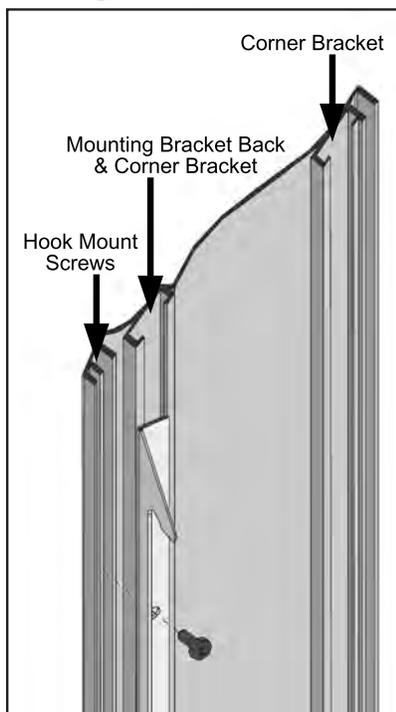
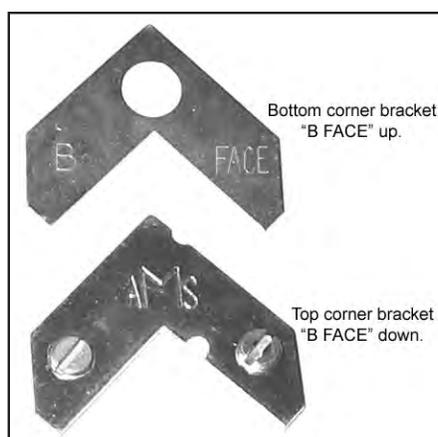

Figure 58: Screw Hook Bracket to the Trim.
Figure 60: Two pieces of corner bracket.
1. Line up the two (2) screw holes in the left hook bracket with the second slot in on the back of the left trim side (refer to Figure 58). Center the bracket between the top and bottom of the trim (approximately $\frac{1}{8}$ " (2.5mm) from either end) and fasten the bracket in place using two (2) #8 screws.
4. Attach the left side trim to the top trim using two (2) corner brackets (see Figure 58 & 59) to secure pieces together. There are two (2) main pieces to each corner bracket (see Figure 60). When installing the corner pieces into the trim the "B FACE" sides must face each other and the screw heads are to face out. With the bracket in place and the top and a side trim snug together use a flat head screwdriver to turn the two (2) screws in each corner bracket to tighten them into the side trim first, then the top trim.
6. For 4-Sided Trim Only: Slide two (2) corner brackets into place at either end of the bottom trim and attach the bottom trim to the left and right trim using the same method used in Step 4, except tightening the side trim first, then the bottom trim.